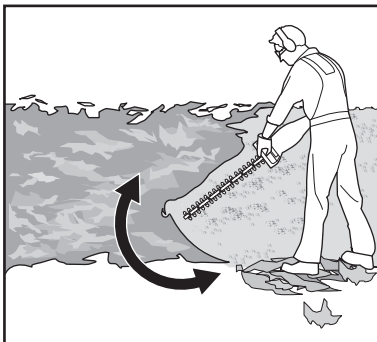

Fig. 7
2. Ensure that the rear handle (8) is locked into one of the five pre-setting positions, rather than the other intermediate positions.
4. Always hold the product firmly with both hands on front handle (3) and the rear handle (8). Never operate this machine using only one hand.
6. First cutting both sides from the bottom upwards to the top. This will prevent any of the cuttings falling into the path of the area still to be cut (Fig. 7).